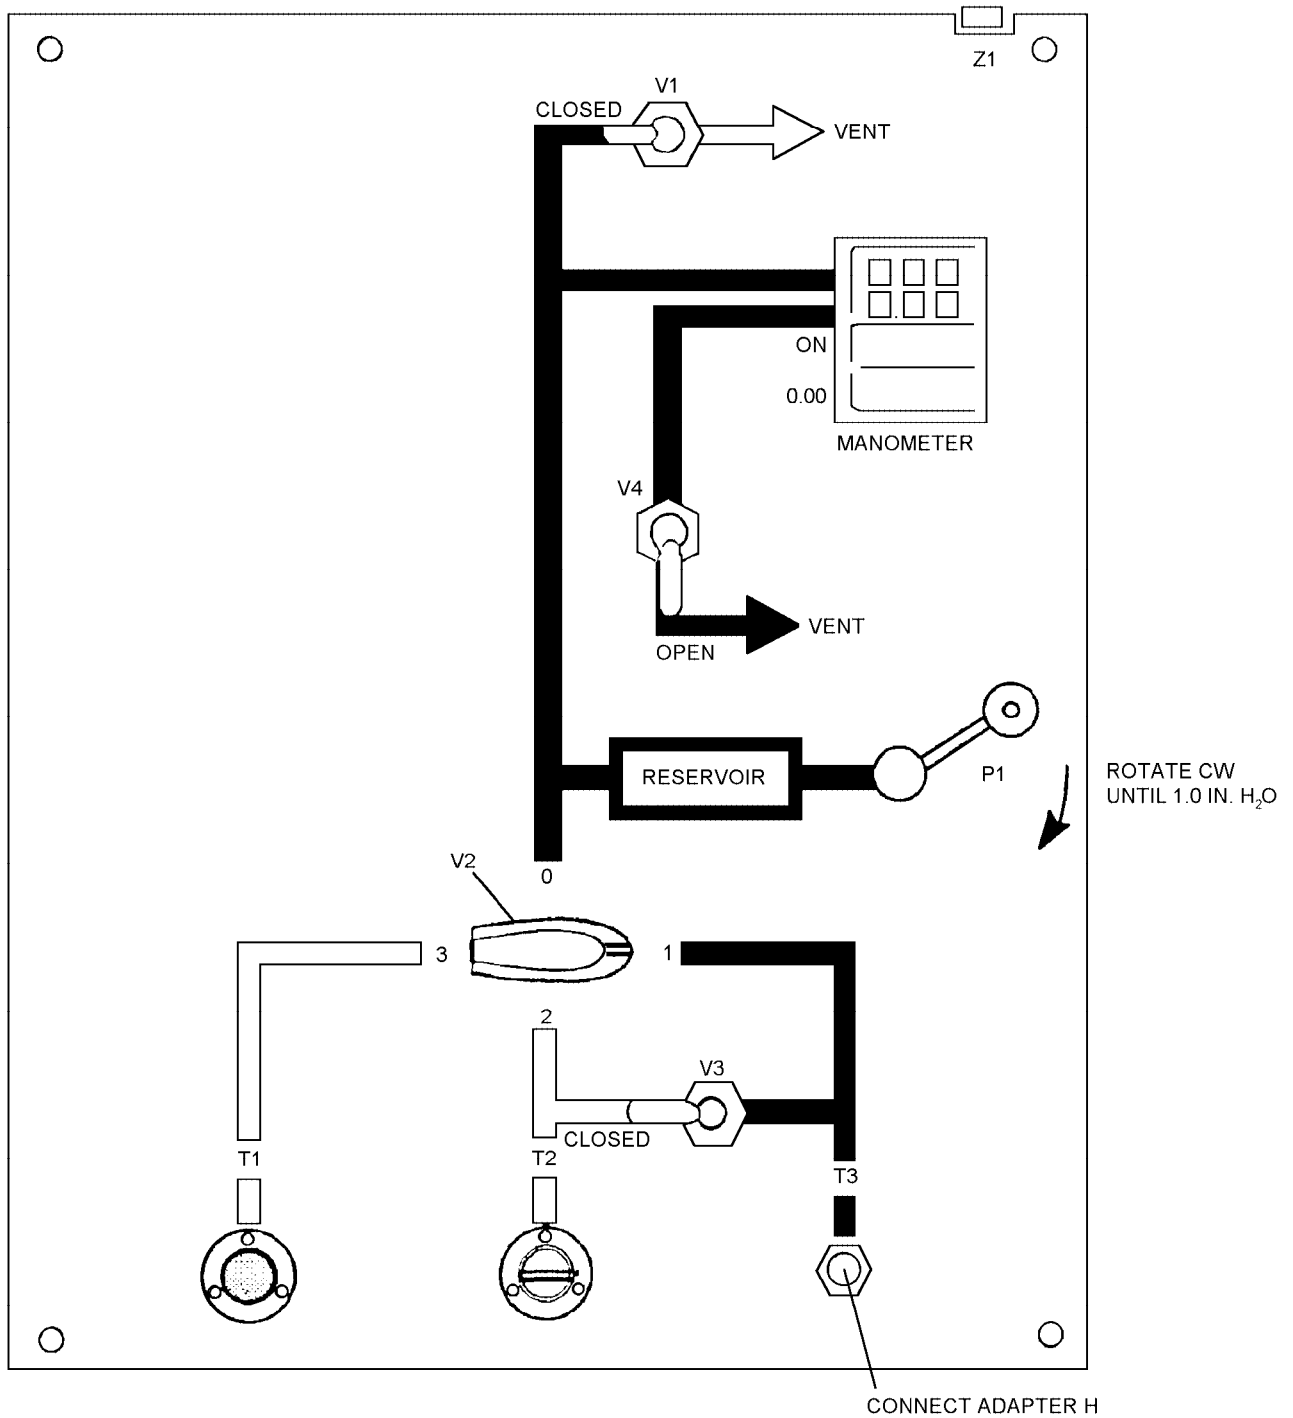

Figure 3-40. Test Panel Configuration Exhalation Outlet Valve - Reverse Leakage Test
5. Connect free end of adapter H to T3 (figure 3-40).